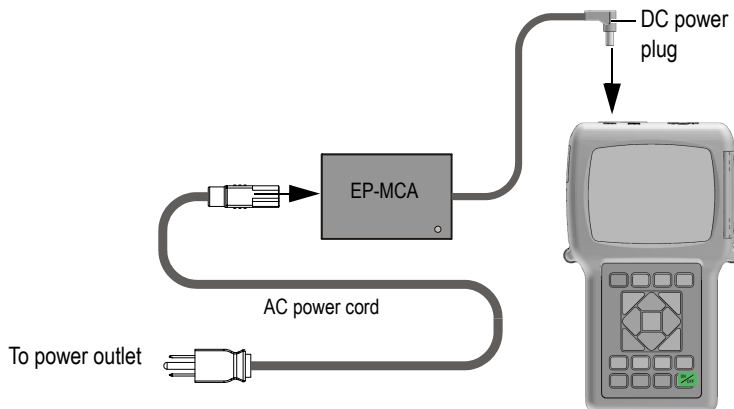

Figure 2-2 Connecting the charger/adaptor
1. Connect the AC power cord to the charger/adaptor (P/N: EP-MCA [U8767042]), and to an appropriate power outlet (see Figure 2-2 on page 26).